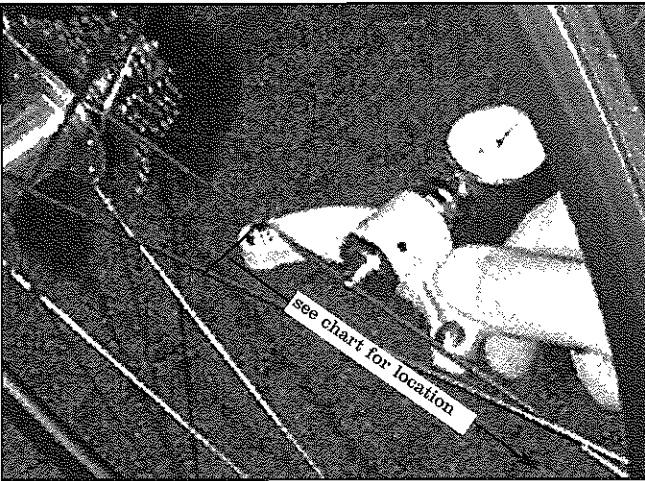

Fig. 30
2. With the handle of a calibrated Rolf/Hozan gauge pointing toward the rim, place the gauge upper pin on this point (Fig. 30) and push the gauge toward the spoke until the lower pin just touches the spoke. Do not press the lower pin into the spoke, as this will alter the gauge reading.